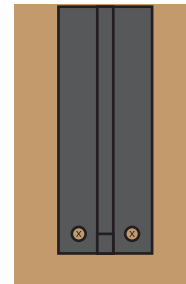

Figure 1
4. Use the bracket as a template to mark and drill $\frac{1}{8}$ " pilot holes $\frac{1}{2}$ " deep (see Figure 1).